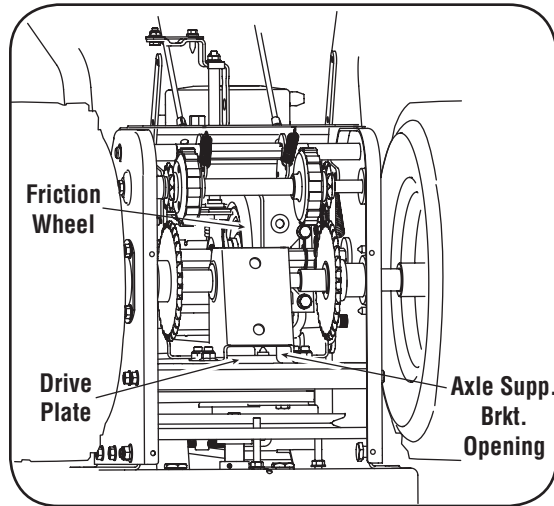

Figure 5-3
2. Locate the opening between the axle support bracket and the front frame support (See Figure 5-3). Looking through this opening, with the drive control released, there must be 1/8" clearance between the friction wheel and the drive plate in all positions of the shift lever.
3. With the drive control engaged, the friction wheel must contact the drive plate. See Figure 5-3.